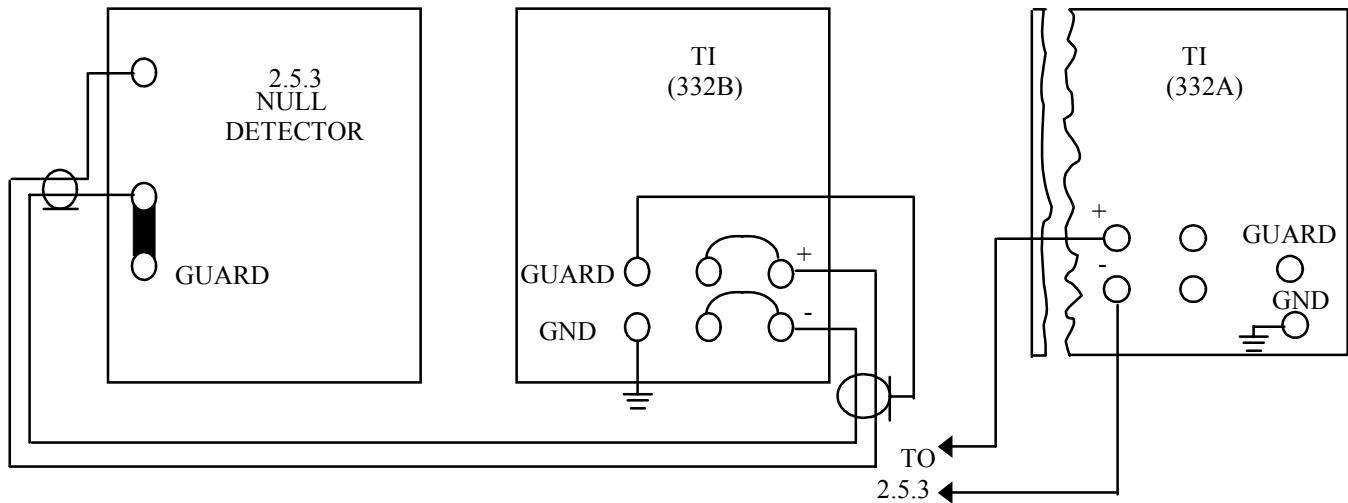

Figure 2. Zero Output Test Configuration
4.3.4 Connect the equipment as shown in Figure 2.